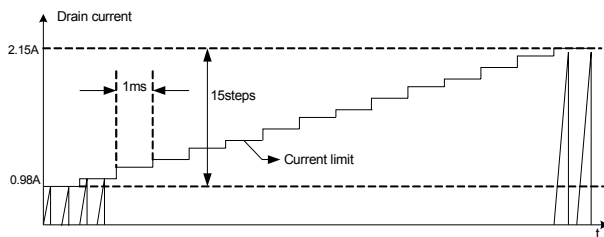

Figure 8. Soft Start Function
**5. Soft Start :** The FPS has an internal soft start circuit that slowly increases the feedback voltage together with the Sense FET current after it starts up. The typical soft start time is 15msec, as shown in Figure 8, where progressive increments of the Sense FET current are allowed during the start-up phase. The pulse width to the power switching device is progressively increased to establish the correct working conditions for transformers, inductors, and capacitors. The voltage on the output capacitors is progressively increased with the intention of smoothly establishing the required output voltage. It also helps to prevent transformer saturation and reduce the stress on the secondary diode.